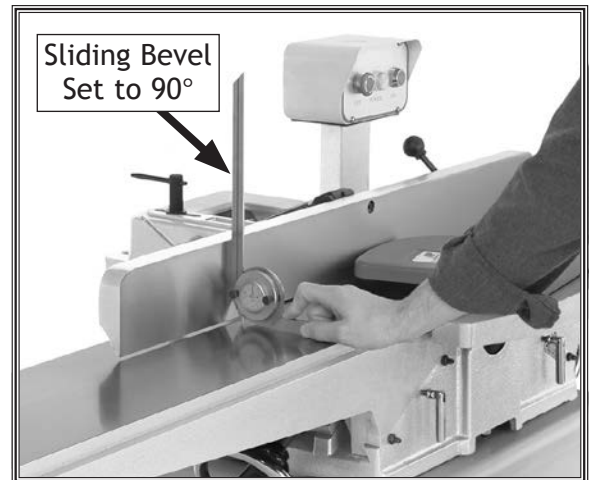

Figure 59. Example of adjusting fence to 90°.
3. Place sliding bevel set to 90° against fence and table, as shown in Figure 59.